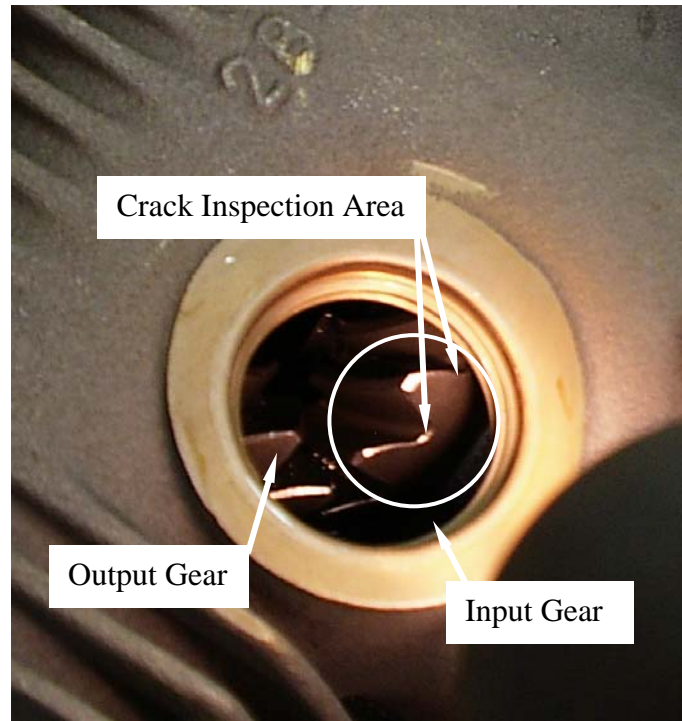

Figure 3. Gear Teeth Inspection – Input Gear Illuminated
- 6.1.4 Illuminate the drive gears with a suitable bright light. With the 10X magnifying glass visually inspect the input gear for broken or cracked gear teeth (Figure 3). See Figure 4 for an example of broken and cracked gear teeth. Slowly rotate the tail rotor to turn the gear for one complete revolution (360°) and thoroughly inspect all the input gear teeth.